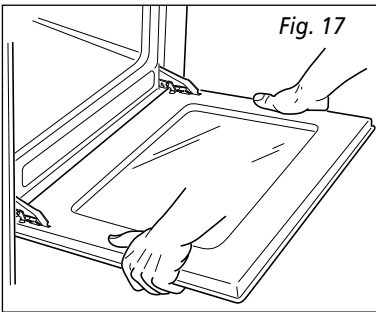
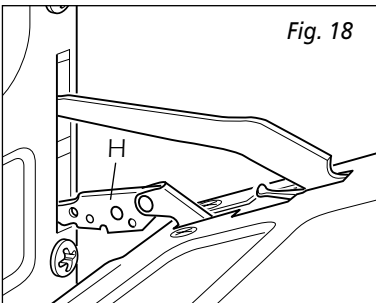

Fig. 17
Fig. 18
- Grip the door (as indicated in fig. 17) and, while closing it, release the two hinges as shown in fig. 18.
- Grip the door with your hands placed near the hinges and raise the levers "H" with your forefingers (fig. 18).